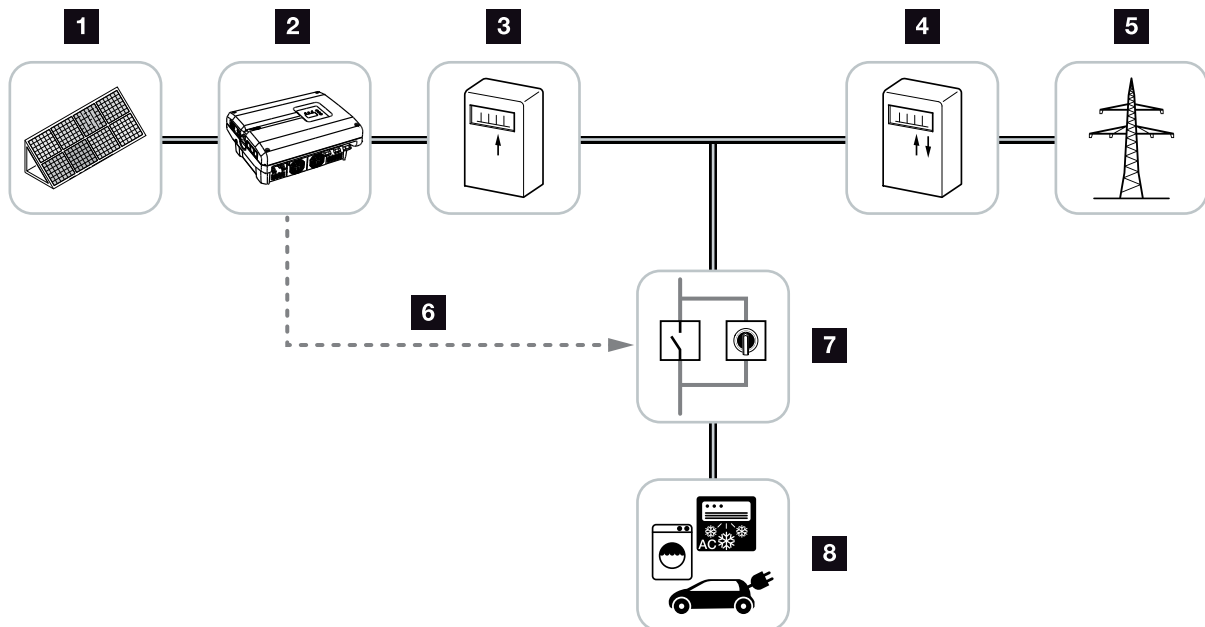

Fig. 53: Configuration of self-consumption
3. Properly install and connect the additional components for self-consumption. **Fig. 53**